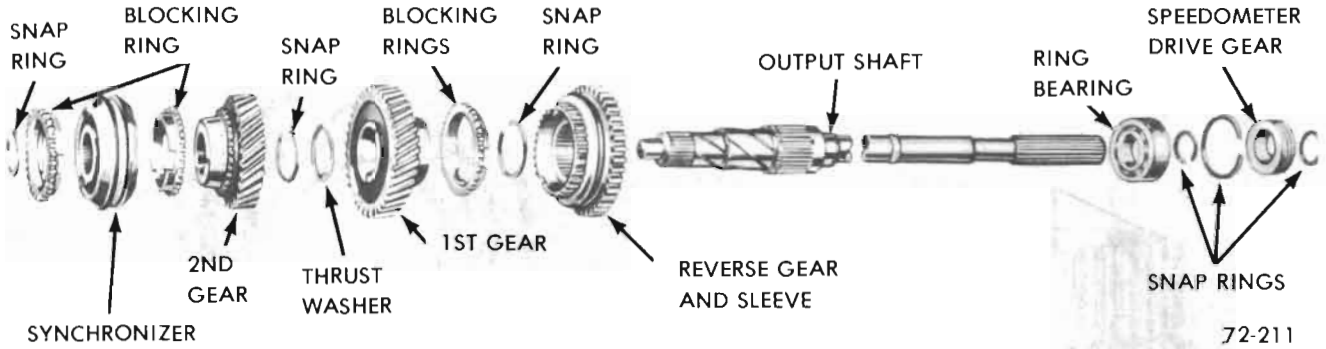

Figure 72-80 - Exploded View of Mainshaft
72-29 DISASSEMBLY OF MAINSHAFT (SEE FIGURE 72-80)
7. Slide the first-reverse gear and sleeve assembly onto mainshaft with teeth of gear facing toward rear of shaft and secure with snap ring. See Figure 72-80.
8. Coat tapered machine surface on first speed gear with grease. Place blocking ring on greased surface. See Figure 72-80.
9. Slide first speed gear onto mainshaft with blocking ring toward rear of shaft. Rotate gear as necessary to engage three notches in blocking ring with synchronizer inserts. See Figure 72-80.
machined surface of second speed gear must be toward the front of shaft. See Figure 72-80.